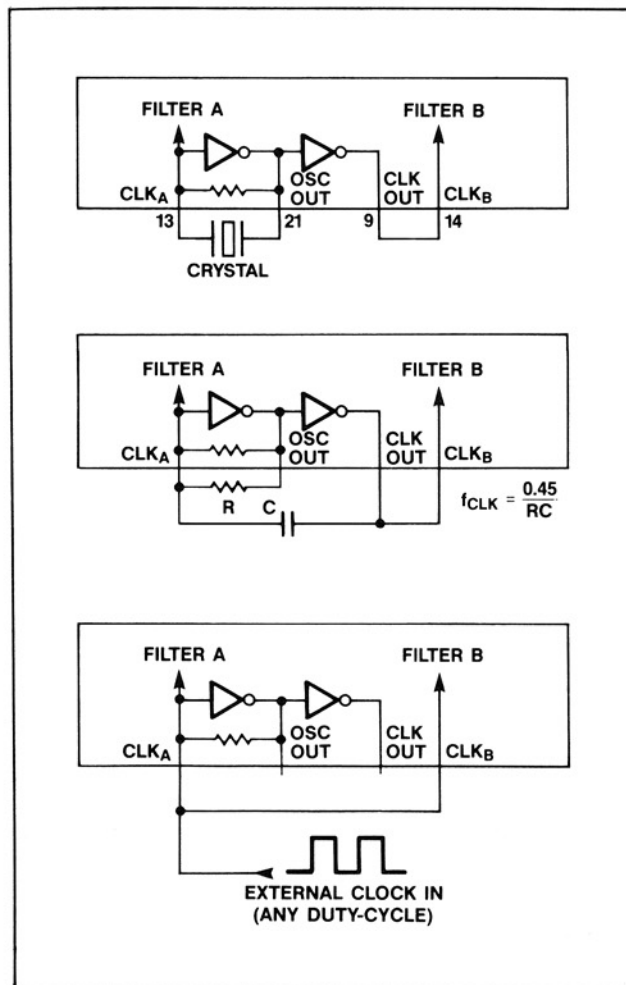

Figure 1. Clock Input Connections
The clock circuitry of the MAX265/266 operates with a crystal, external clock source, or a resistor capacitor network (RC) as shown in Figure 1. The clock rate,  $f_{CLK}$ , nominally equals  $0.45/RC$  when an RC network is used, however, this relationship is not guaranteed. Consequently an RC clock is not recommended for precise filter applications.